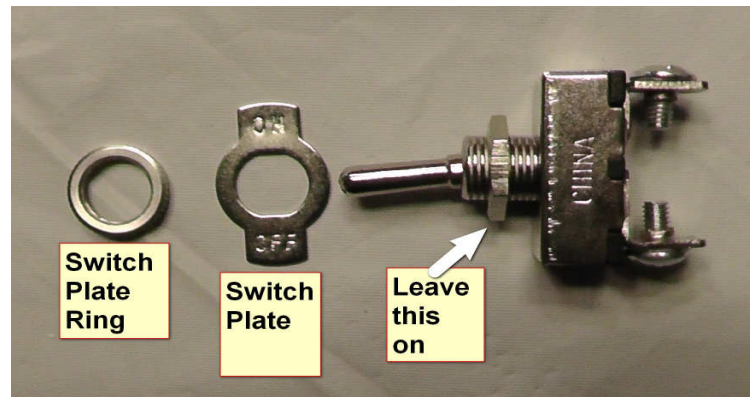

Fig. 5 Parent Switch (Kill Switch) parts
5) Locate the Parent Switch (Kill Switch) in the parts bag. See Fig. 5